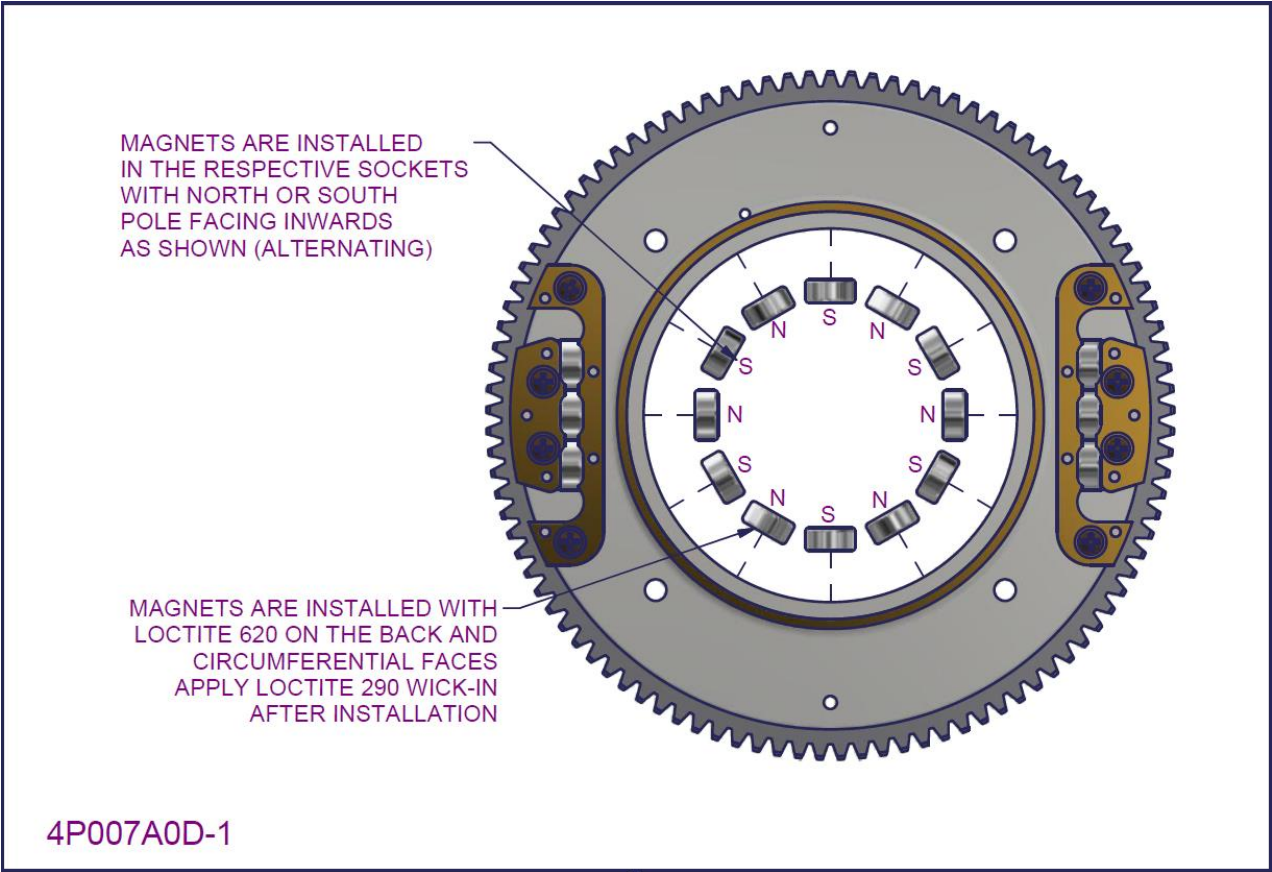

Figure 91 - 2200/3300 Flywheel subassembly (aluminium cross piece) 3
- Install the twelve magnets with the inward facing pole alternating between north and south as shown in Figure 91.